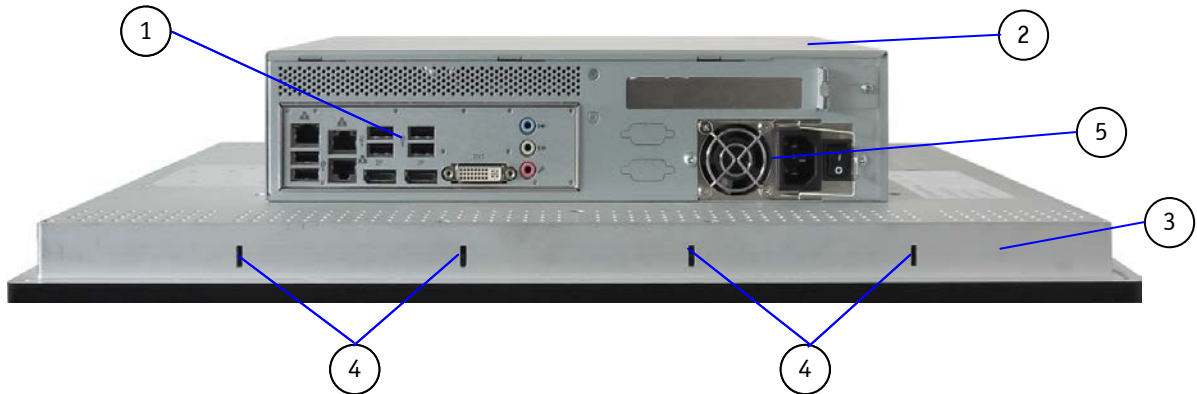
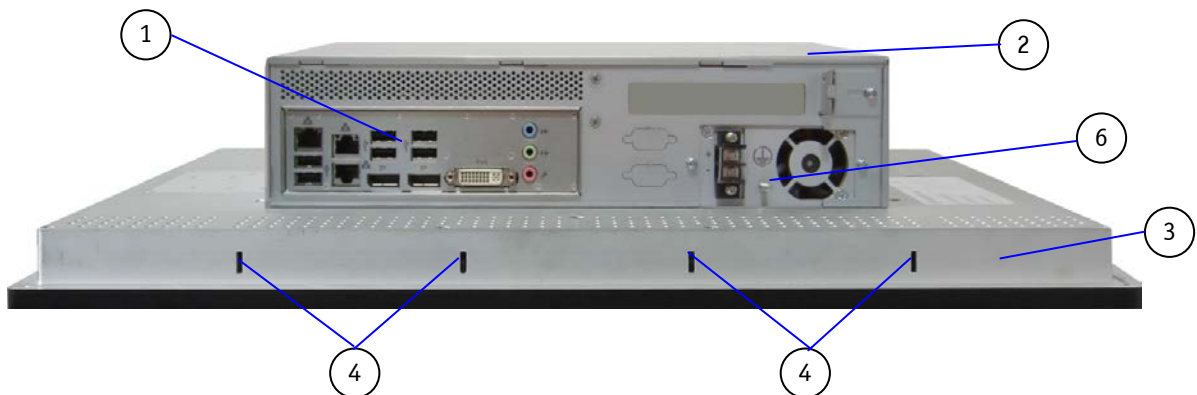

Fig. 17: Bottom side of the OmniClient (interface side with AC PSU); shown as a system with a 21.5" display
Fig. 18: Bottom side of the OmniClient (interface side with DC PSU); shown as a system with a 21.5" display
On the bottom side of the touch display unit (Fig. 17, pos. 3) are available two pairs of mounting slots (Fig. 17 and Fig. 18, pos. 4) for the provided mounting clamps (Fig. 36).